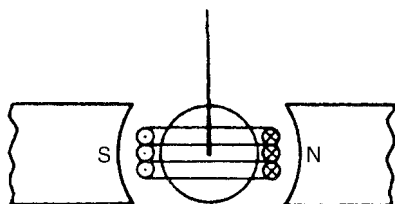

Figure 8.19
- 8 Figure 8.19 shows a simplified diagram of a section through the coil of a moving-coil instrument. For the direction of current flow shown in the coil determine the direction that the pointer will move.